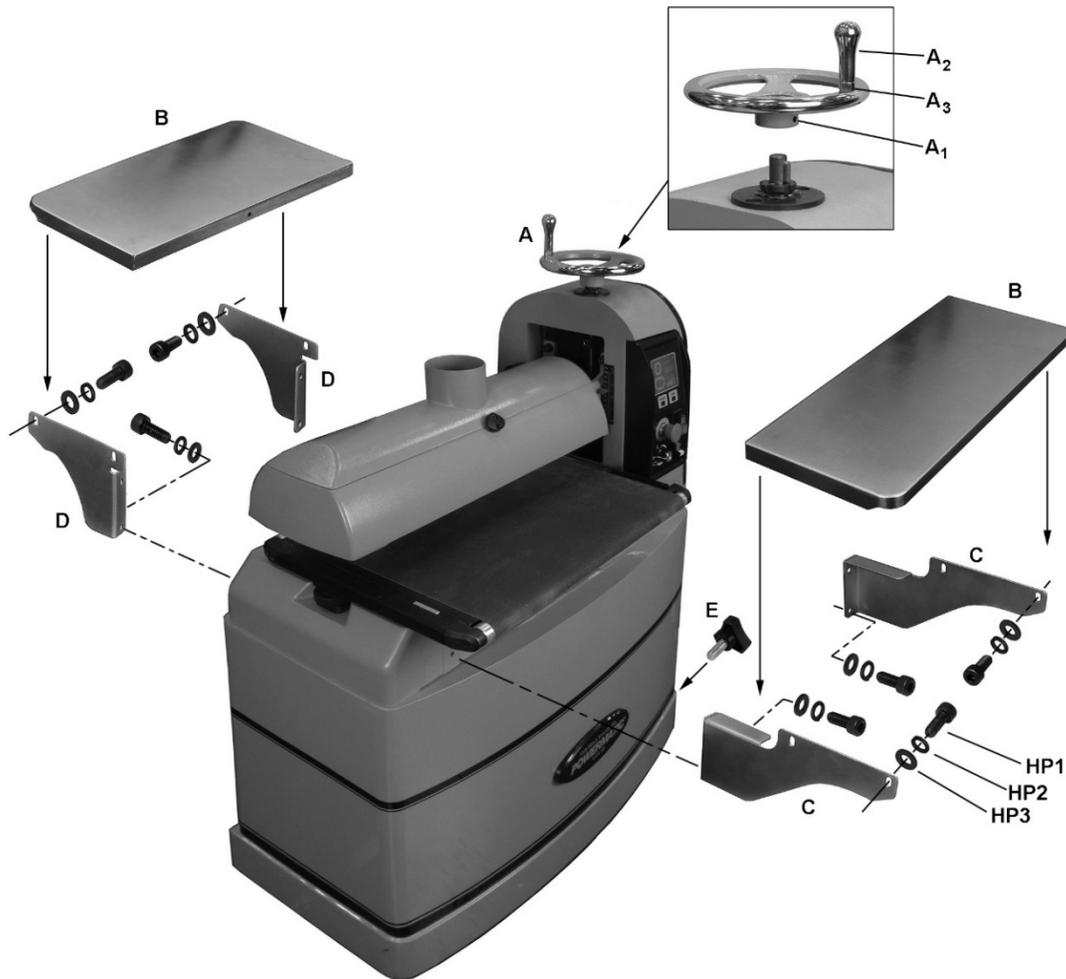
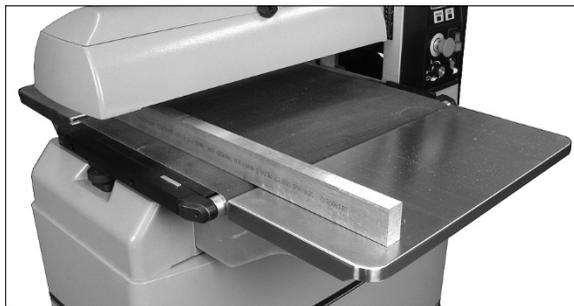

Figure 2
Figure 3
See Figure 2.
- Back off set screw (A₁, Figure 2), and push handwheel (A, Figure 2) down onto shaft as far as it will go. Make sure set screw faces key on shaft. Tighten set screw with 4mm hex wrench.
- Attach table brackets (C,D, Figure 2) to sander base with M8 screws and washers (HP1,HP2,HP3). Tighten screws with 6mm hex wrench.
NOTE: Longer brackets (C) mount to infeed side, shorter brackets (D) to outfeed side. Each bracket has left and right version. See Figure 2 for proper orientation.
- Place extension tables (B) onto table brackets (C) and insert screws and washers (HP1,HP2,HP3). Note: Leave screws loose for now.
- Place a straight edge across conveyor bed and extension table. See Figure 3.
Screw the caster lock knobs (E, Figure 2) into the threaded holes on the side of the cabinet.